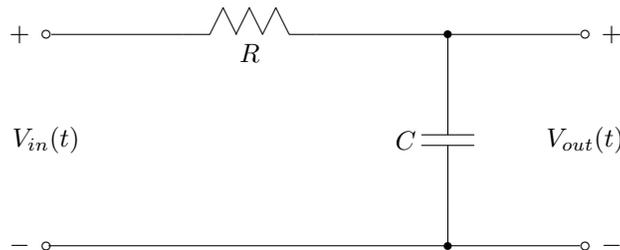

Figure 1.0.1: RC Circuit
In this lab you will be asked to measure the output response of the series RC circuit shown in Fig. 1.0.1 below for a variety of inputs, including a step, a combination of a step and a ramp, and a sinusoid. You will then compare your results to those computed as part of your pre-lab assignment.
1. Build the RC Circuit shown in Fig. 1.0.1 of the lab manual with $R = 1 \text{ K}\Omega$ and $C = 1 \mu\text{F}$.
- Assemble on a protoboard an RC circuit corresponding to Fig. 1.0.1 with $R = 1 \text{ K}\Omega$ and $C = 1 \mu\text{F}$.